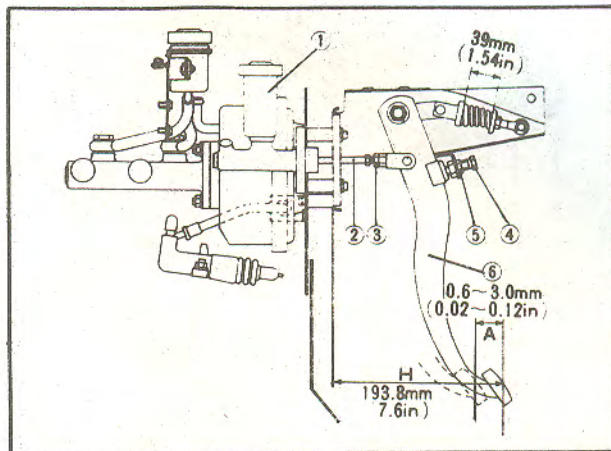

Fig. 2.2. — View of the clutch pedal with details of the clutch pedal adjustments.
Adjust the clutch pedal height with the height adjusting bolt (4, in Fig. 2.2.) and nut (5). The height between the clutch pedal pad and the floor mat is shown in the illustration.